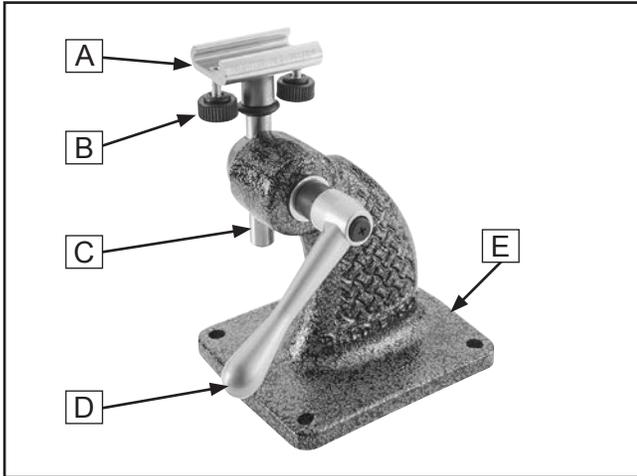

Figure 1. BE1162 identification.
- Loosen lock handle two turns and rotate dovetail mount to upright position, then tighten lock handle so it looks similar to **Figure 1** on the previous page.